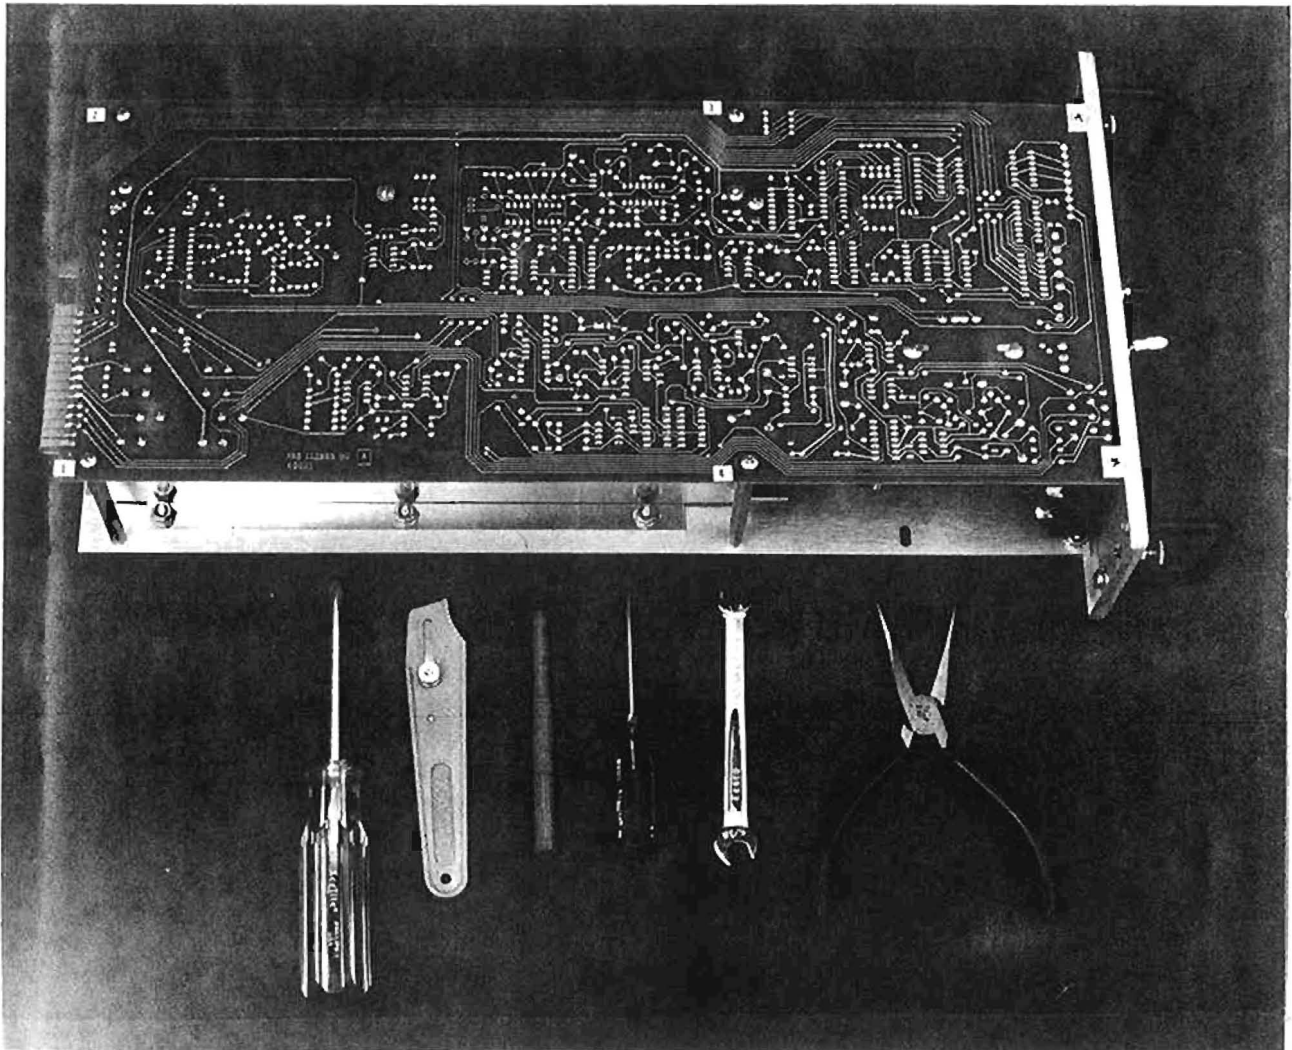

FIGURE NO. 1
- 2) Remove demodulator from shelf and place it on bench with printed circuit side up. At this time, look at the four (4) rear screws. Note that the washers under the screws do not touch any printed circuit runs. This is important when re-assembling the demodulator. Remove the four rear screws holding the printed circuit board, leave front two screws intact. (See figure No. 1)